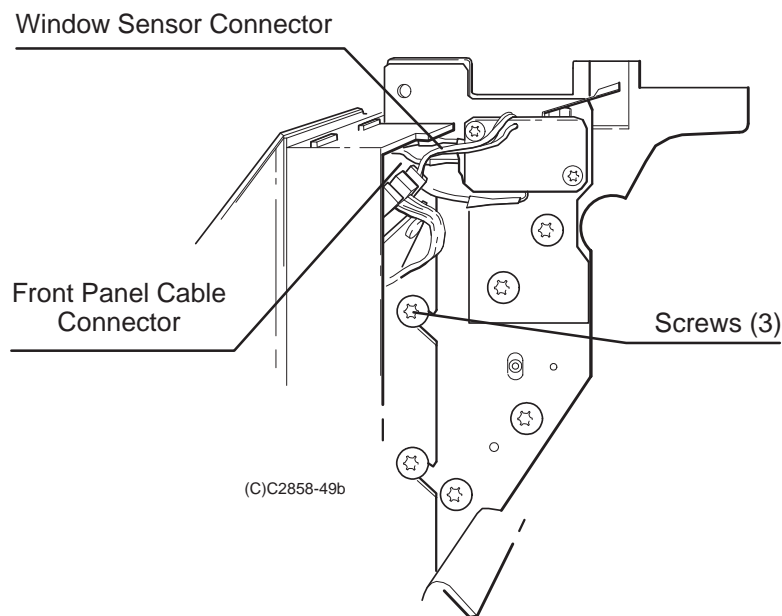

Figure 6-17.
2. Disconnect the window sensor connector and the front panel cable connector from the front panel assembly. See Figure 6-17.